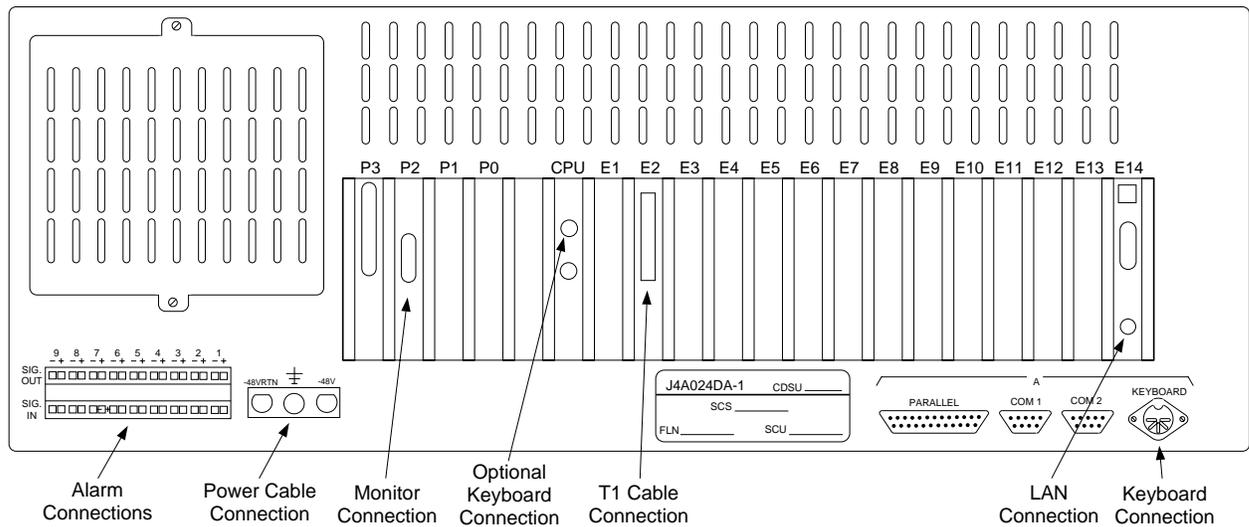

Figure 2. CDSU-II Rear View
3. Disconnect the following cables from the rear of the CDSU-II (Figure 2):